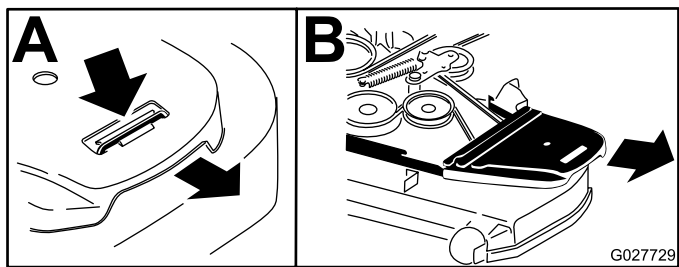

Figure 66
4. Remove the belt covers (Figure 66).